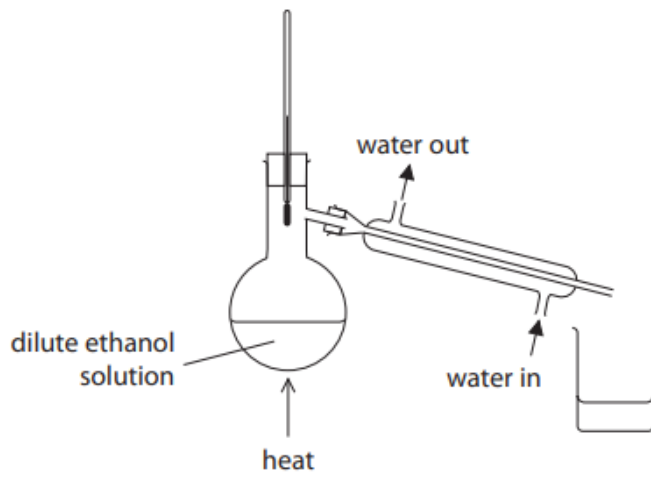

Figure 11
- (ii) The apparatus in Figure 11 is used to increase the concentration of the dilute solution of ethanol.